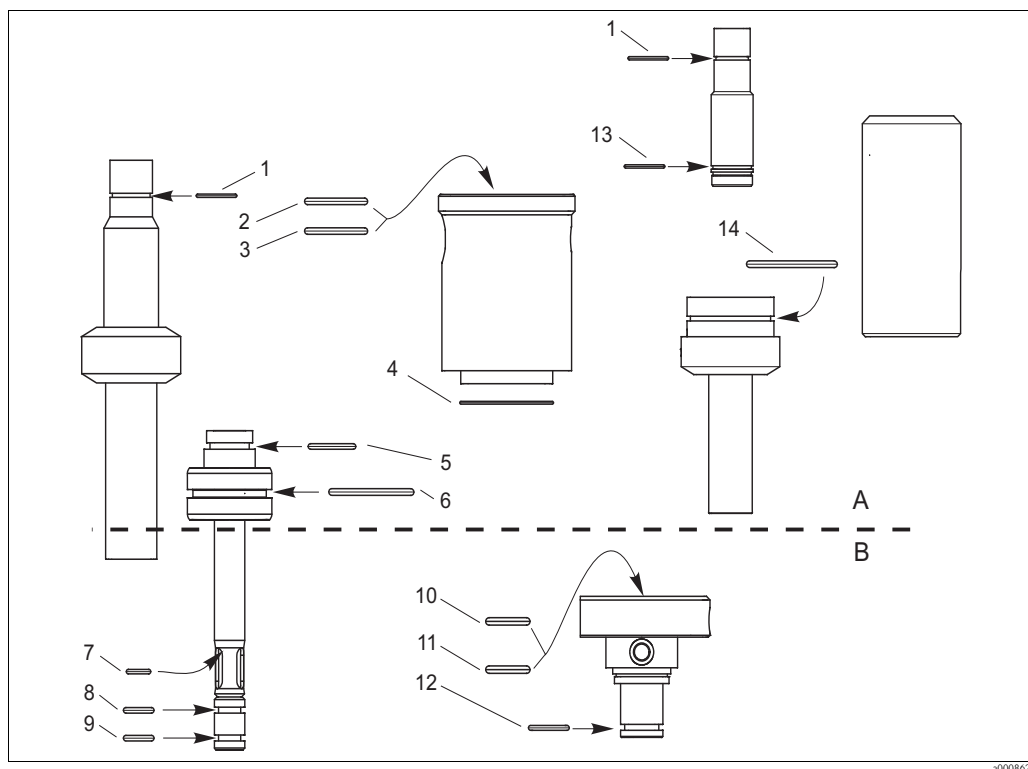

Fig. 22: Position of the seals
2. Replace the seals as shown in Fig. 22.